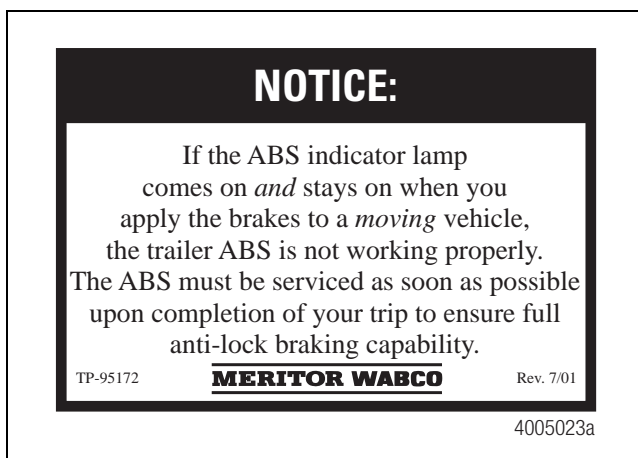

Figure 6.19
1. Affix the ABS indicator label to the trailer. The label should be on the side of the trailer near the ABS indicator lamp. Figure 6.19.